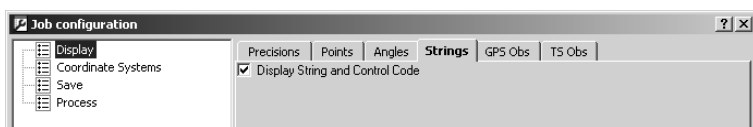

Figure 4-43. Job Configuration – Strings Tab
2. On the *Job Configuration* dialog box, click *Display* and then the *Strings* tab (Figure 4-43).